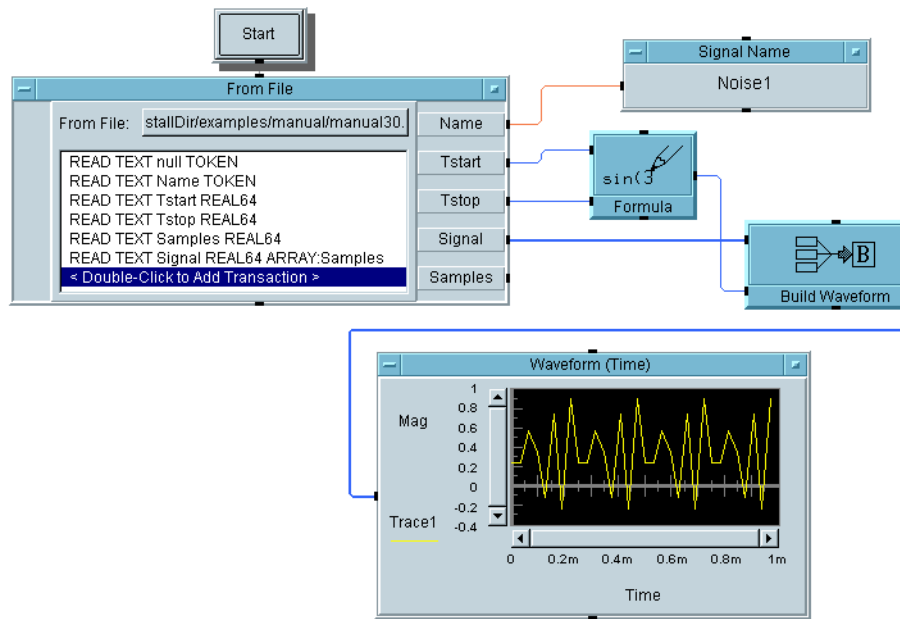

**Figure 4-16. Importing a Waveform File**
**Fixed-Format Header.** A portion of the data file read by the program in Figure 4-16 is:
Since this is a fixed-format header, labels such as `NAME` and `SAMPLES` are irrelevant. The waveform attributes *always appear and are in the same position*. Figure 4-16 shows a program that reads the waveform data file.
The program in Figure 4-16 is saved in the file `manual30.vee` in your `examples` directory.